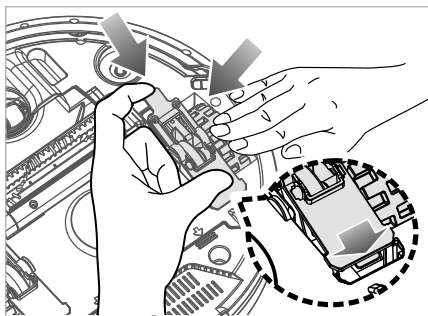

Fig. 25
- 6) Press the wheel **20/34** down and fasten the wheel cover **19/35** onto the appliance (see Fig. 25).